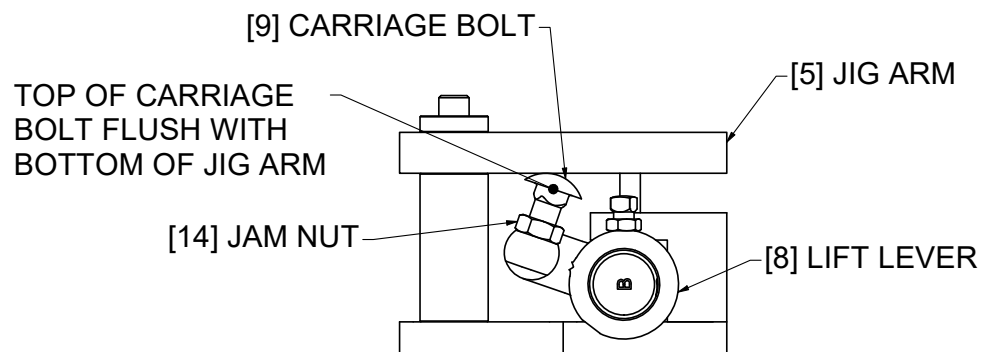

Figure 1.3-4
Step 7: Loosen the jam nut [14] on carriage bolt and adjust the carriage bolt so that the top of the carriage bolt is touching the bottom of the jig arm. See Figure 1.3-4.